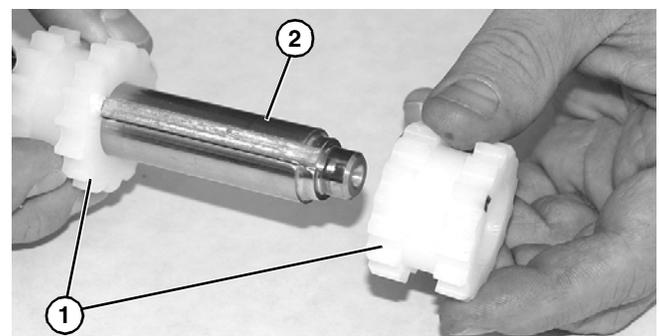

Figure 41
4. Slide free moving sprocket(s) (**Figure 41, item 1**) off the end of pulley (**Figure 41, item 2**).